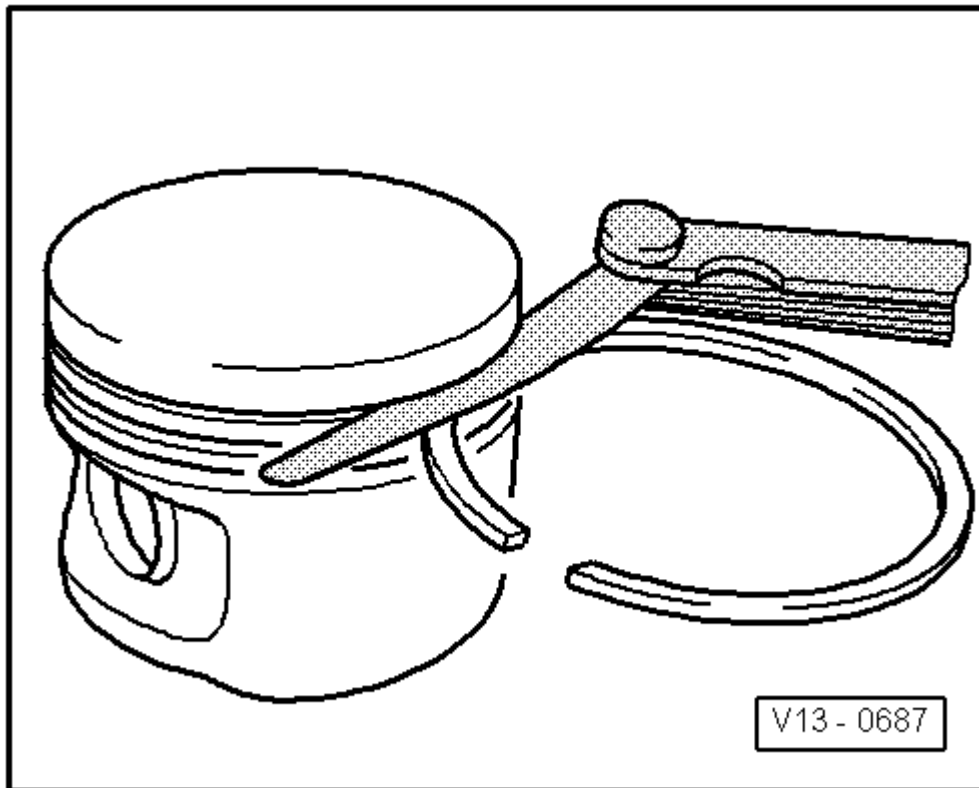

Fig. 16: Identifying Check Of Piston Ring Gap
- Checking the piston ring groove clearance, refer to **Fig. 16**.